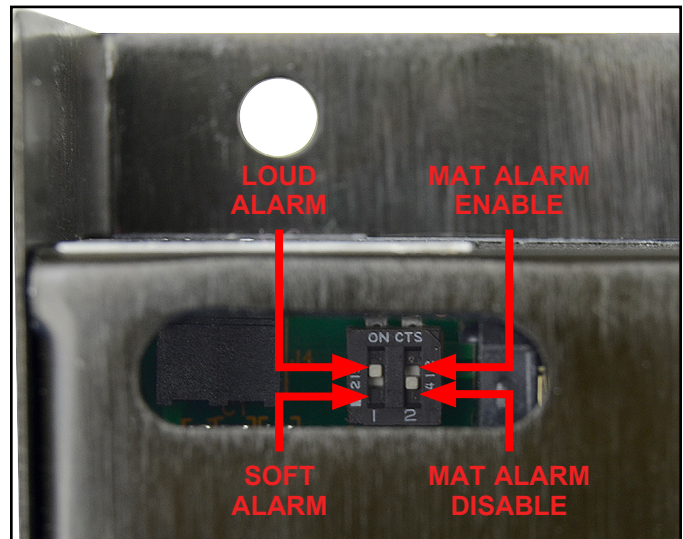

Figure 5. Audible alarm DIP switches located on the bottom side of the 724 Workstation Monitor
The 724 Workstation Monitor monitors its connection to ground and the grounding of a worksurface. A loop resistance is measured from the monitor, through the mat monitor cord to the worksurface, across the conductive layer of the worksurface, through the grounding wire of the worksurface to an electrical ground and finally back to the monitor through the monitor's ground wire. If the resistance of the loop exceeds 3.7 Megohms, the worksurface high red LED (M) will illuminate and all green LEDs will be extinguished. If audible alarm DIP switch 2 is in the ON position (Figure 5), the audible alarm will activate. If no ESD worksurface is to be monitored, the mat monitor cord and the ground wire of the 724 Workstation Monitor must be connected to an electrical ground. This is done to ensure that the 724 Workstation Monitor is providing a ground connection for the operators. Again, if the loop resistance exceeds 3.7 Megohms, the worksurface high red LED (M) will illuminate and the audible alarm will sound if enabled.